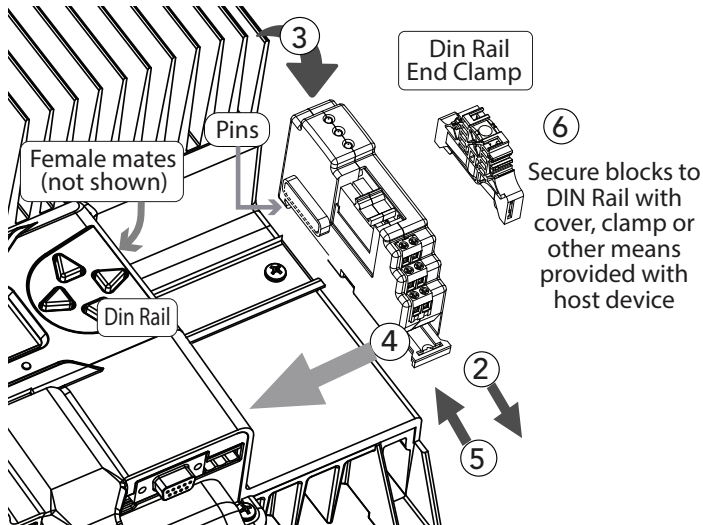

Figure 3-1. ReadyRelay Installation Detail
**To install ReadyRelays** (see Figure 3-1 below):